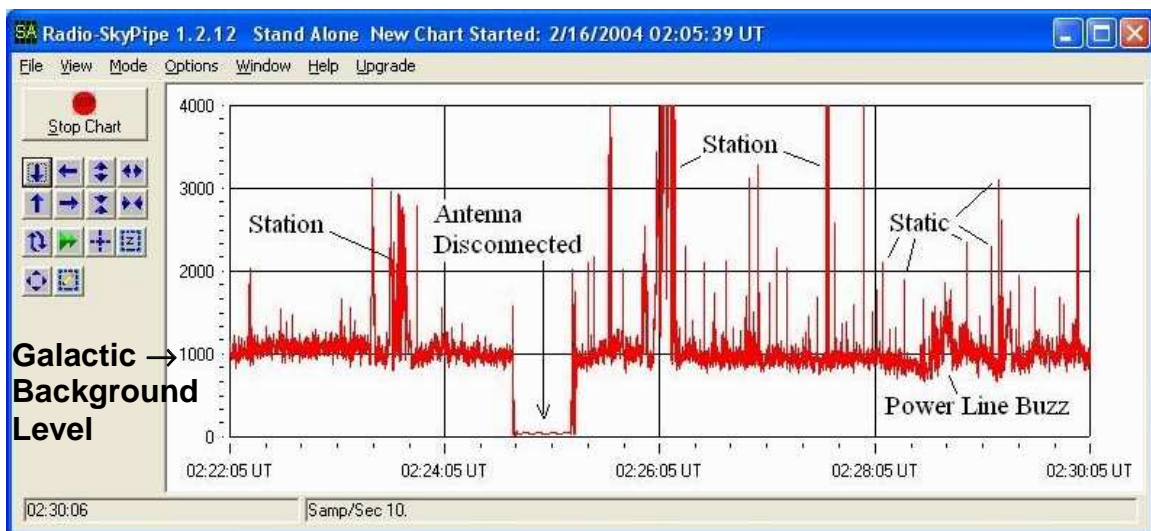

Figure 5.4. Sample RJ output showing a typical SkyPipe record. The effect of connecting and disconnecting the antenna is clearly seen.
2. Connect all cables to the receiver as shown in Figure 5.4.
You should hear a significant increase in noise level when the antenna is connected to the receiver as compared to listening to the receiver with no antenna (Figure 5.4). If you do not hear this noise increase, then there is something wrong with either the antenna or the receiver.